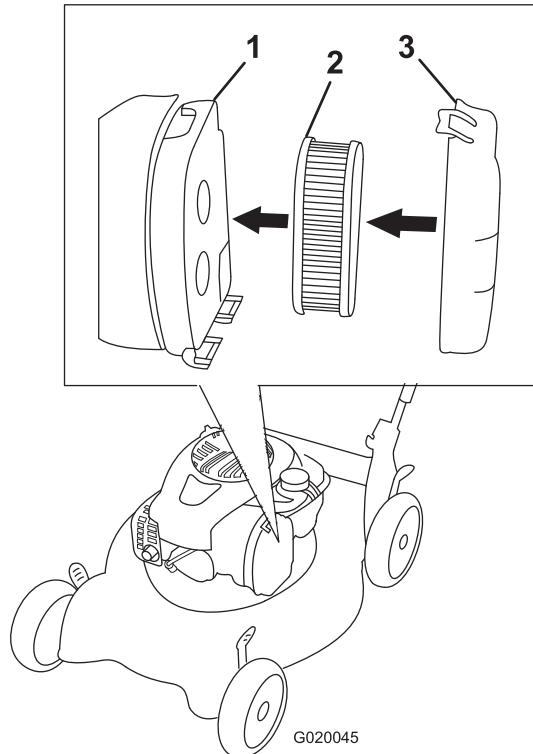

Figure 17
2. Press the button on the air cleaner cover (Figure 17) and open the cover.